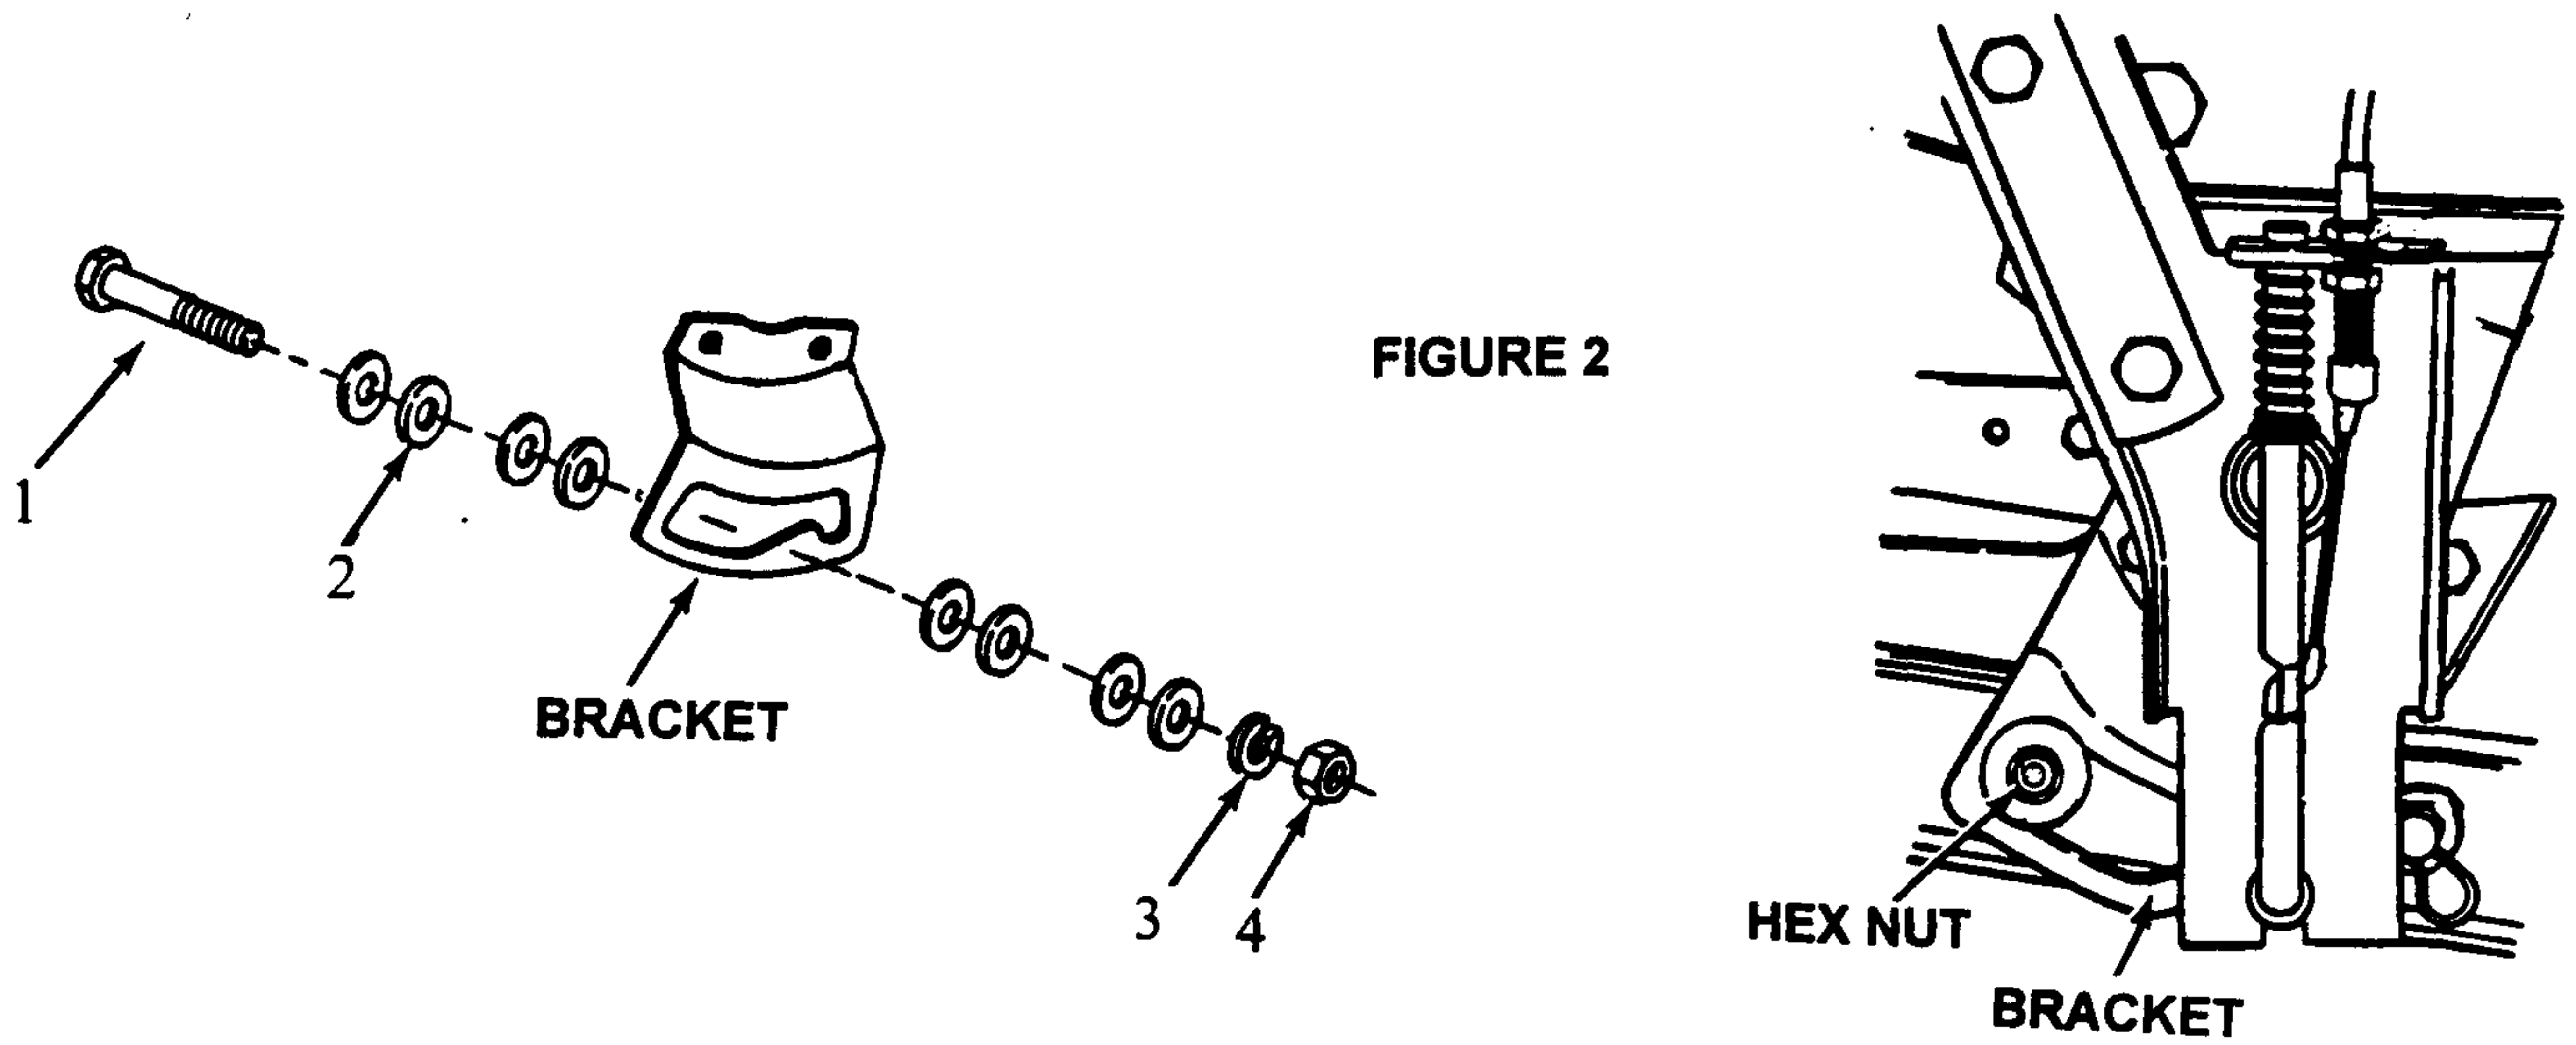

FIGURE 2
5. Refer to figure 2 on back of this bulletin. Place hex bolt with four flat washers through slot in the lift handle bracket. Secure with four flat washers, lock washer and hex nut. Four washer should go on each side of the bracket with the hex nut on the outside of the bracket. The outside diameter of the flat washers will limit the excessive travel in the lift handle latch bracket. Required hardware listed on the back of this bulletin will vary due to application.